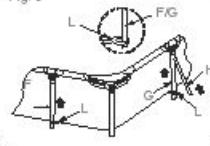

Fig. 7
13. Attach all Footings (M/N) to the bottom of the Vertical Pool Legs (F) and the Side Support Legs (H). (See Fig. 7)